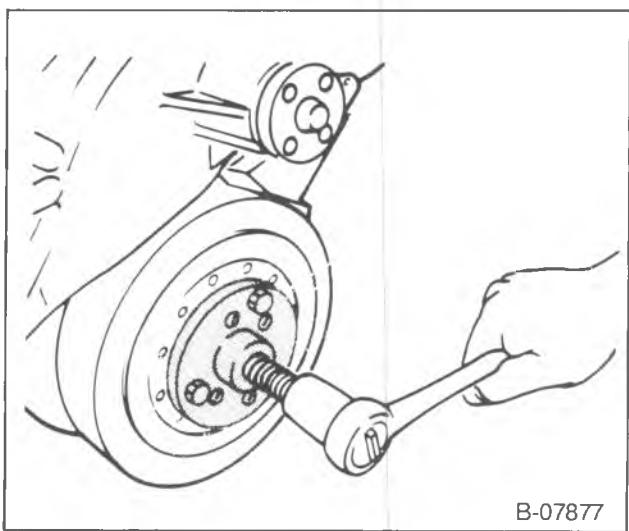

Figure 9—Removing the Torsional Damper (Typical)
1. Bolt (80) and washer (81).
2. Torsional damper (79). Use J 23523-E (figure 9).